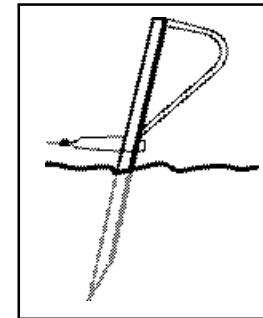

Figure 11c.
4. Carefully pull the cable out to the cable anchor. The cable is 360 feet long so the cable anchor should be less than 360 feet from the RainTrain2®. Note: If you use less than the full 360 feet of cable, make sure the remaining coils of cable are tight on the cable drum. Secure the cable end to the cable anchor so that the cable is held as close to the ground as possible (see figure 11c). In light sandy soils it may be necessary to replace the standard anchor with a larger anchor.